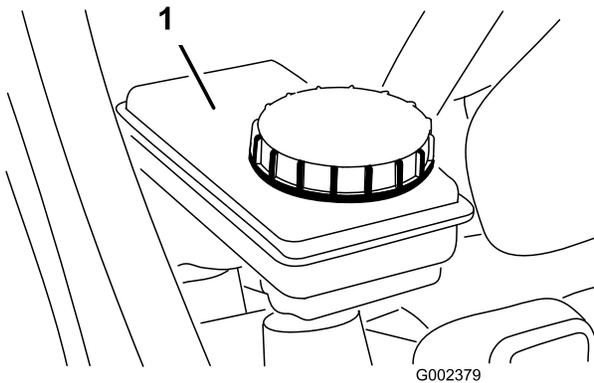

Figure 15
2. The fluid level should be up to the Full line on the reservoir (Figure 15).